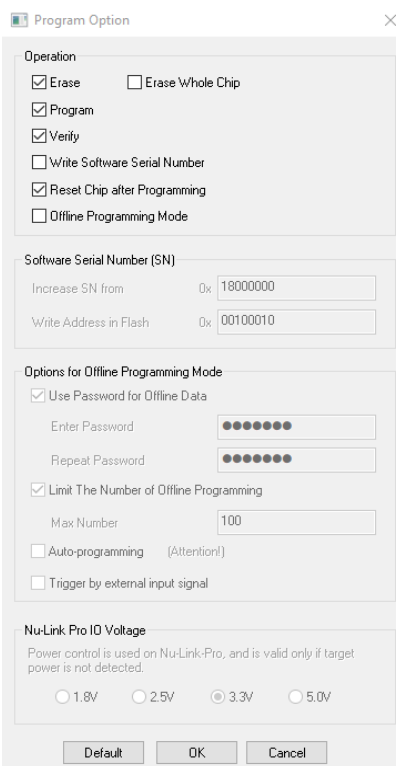

Figure 5.2-4 ICP Tool Programming Options
- (6) Click **Option** in the **Programming** section of the ICP Tool Window to open the **Program Option** form, as shown in Figure 5.2-4.
- (7) In the **Nu-Link Pro IO Voltage** section, specify the power voltage of the SWD port for the target chip, and then click **OK**. To use the offline programming function, the Offline Programming mode option needs to be selected, as shown in Figure 5.2-4.